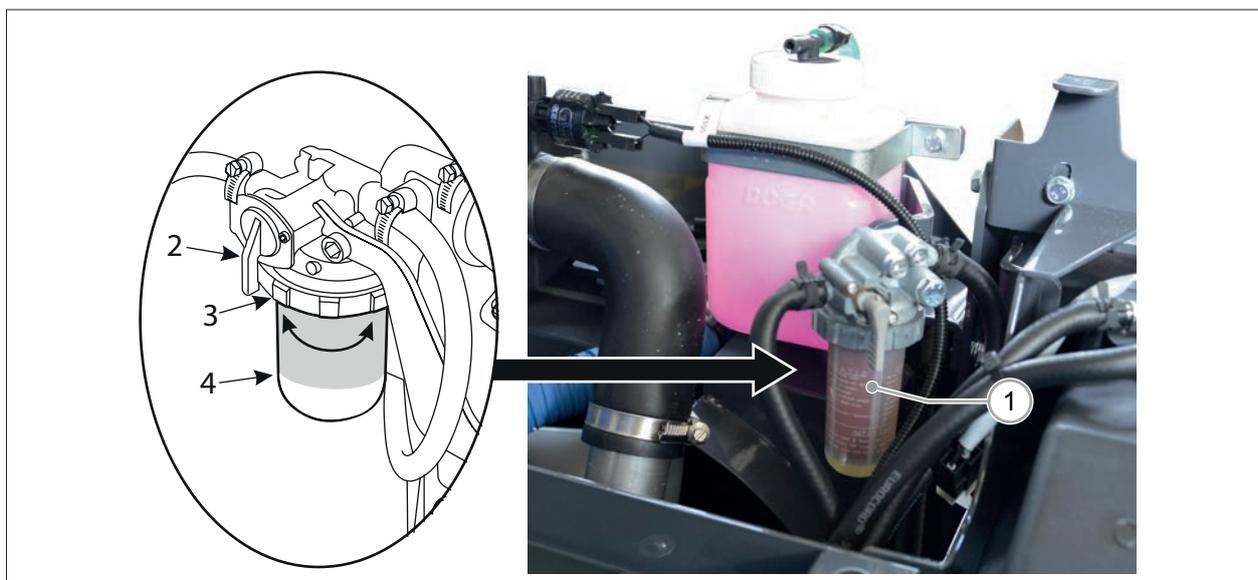

FIG. 55
- 4) Inspect the separator filter (FIG. 55 - Ref. 1) and check if there's water (FIG. 55 - Ref. 4) at the bottom of the filter bowl.
- Close the tap of the fuel/water separator (FIG. 55 - Ref. 2).
- Loosen the ring (FIG. 55 - Ref. 3). It may be necessary to use a wrench.
- Open the tap (FIG. 55 - Ref. 2).